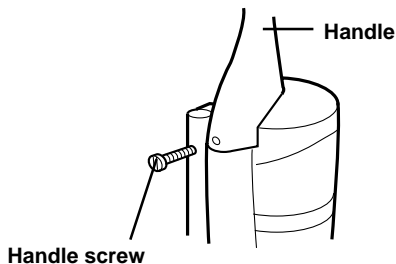

Fig.2
- 2 Line up the hole on the handle with the hole on the side of the vacuum cleaner and insert the screw. (Fig. 2) Be sure the screw is tightened securely.